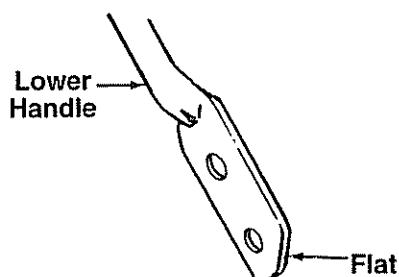

FIGURE 13.
- Turn the lower handle around so the flat on the bottom is facing upward as shown in figure 13. Reassemble, placing the bottom holes in the handle over the weld pins in the handle mounting bracket.